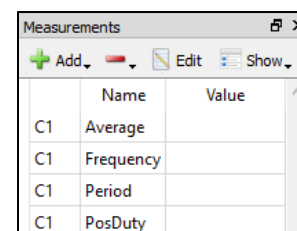

Figure 31: Measurement
**Measurement Tool:** Click on View, Measure to bring up Measurements see Figure 31. To view a measurement click on Add, Defined Measurement. Then select the measurement you would like to view on the channel you are using. Measurements include the frequency, period, duty cycle (all under horizontal) and average value of the input (under vertical).